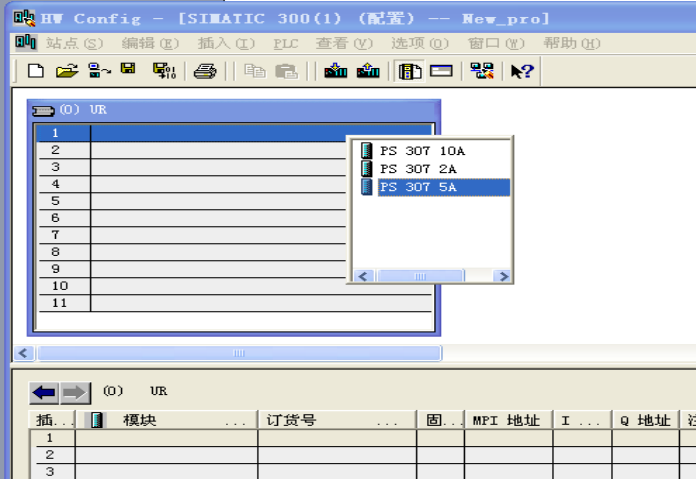

Figure 7-7
4. Right-click the first row in the pop-up list and select [Insert Object] . In the pop-up device list, select [PS 307 5A] as the power supply for the device, as shown in Figure 7-7.